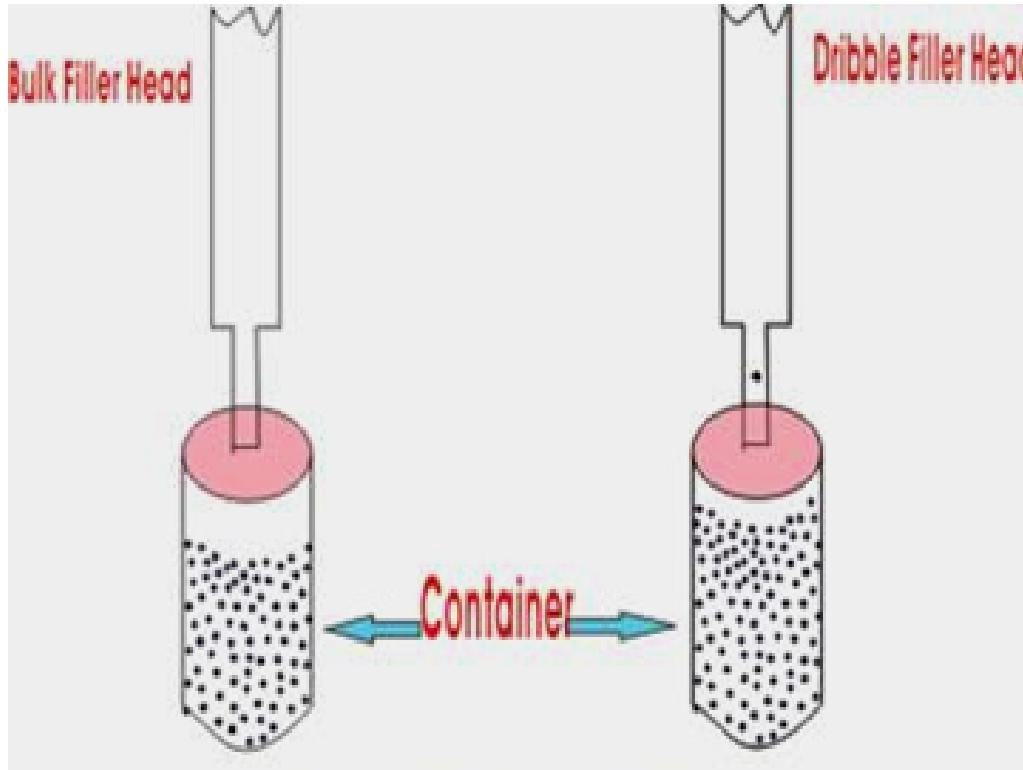

**Figure 20.27 Net weight fill**
- Each product load is weighed separately in the filling machine before it is loaded into the container (Fig.20.27).